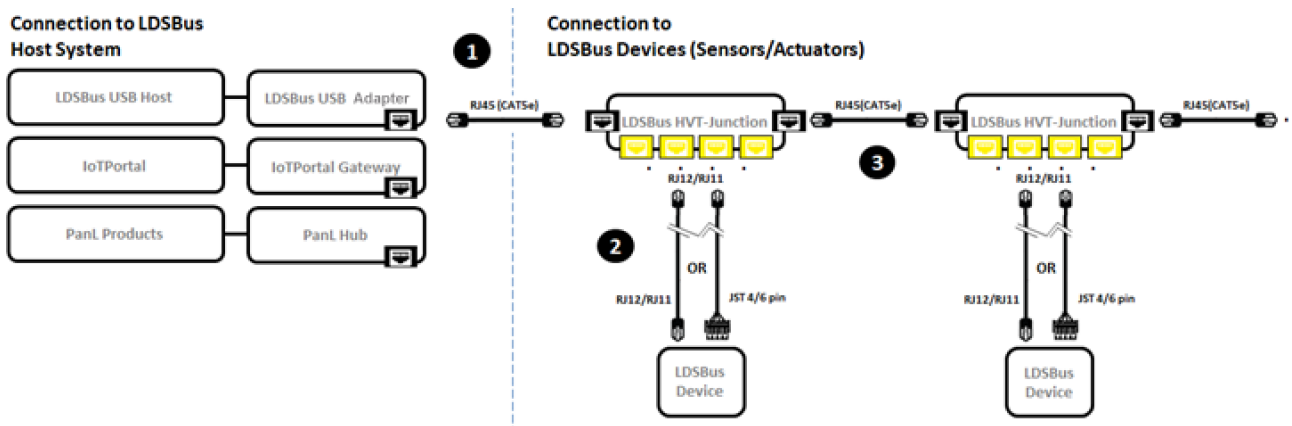

Figure 2 - LDSBus ORP Sensor Adapter to LDSBus - Connection Diagram
Figure 2 illustrates the connection of the LDSBus ORP Sensor (LDSBus Device) to the LDSBus. Please visit <https://brtsys.com/resources> to view the full device application, setup, and installation guides.
2. Connect the configured LDSBus ORP Sensor Adapter to the LDSBus HVT-Junction as shown in Figure 2.
3. If there is more than one LDSBus HVT-Junction, chain them together as shown in Figure 2.